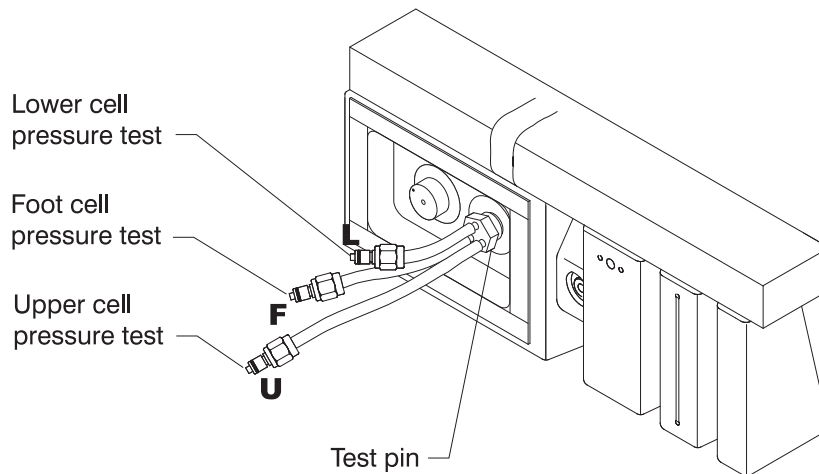

Figure 7—Test pin
1. See figure 7 (p. 10). Use the Functional Test Kit (fig. 24, p. 35). Replace the CPR plug with the test pin. Connect the female CPC connector and hose to the manometer.